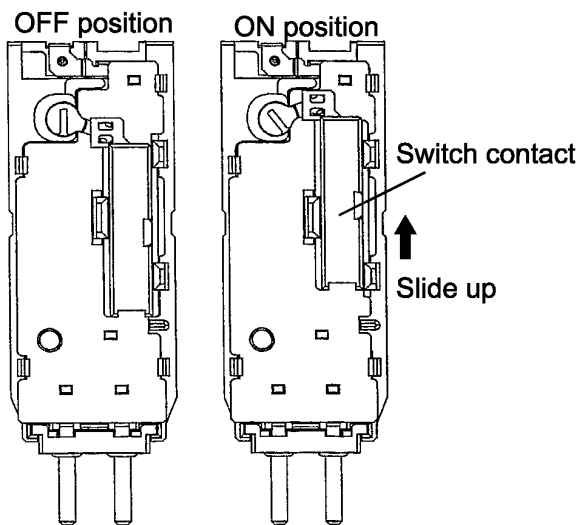

Fig.1
<p><CHECK SWITCH.> Replace the battery. If there is continuity between (1) and (2) with switching ON, the switch is normal. (See Fig. 1.)</p>	NO → Replace the switch terminal plate.